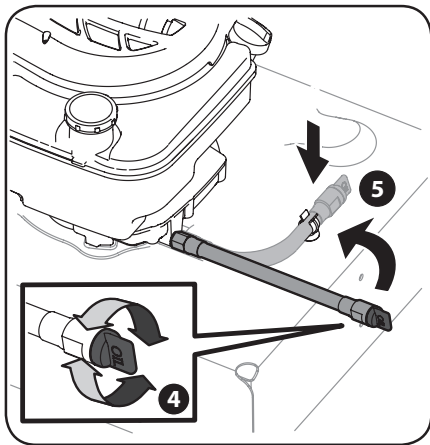

Figure 4-5
4. After the oil has finished draining, screw the cap back onto the end of the oil drain hose. See Figure 4-5.